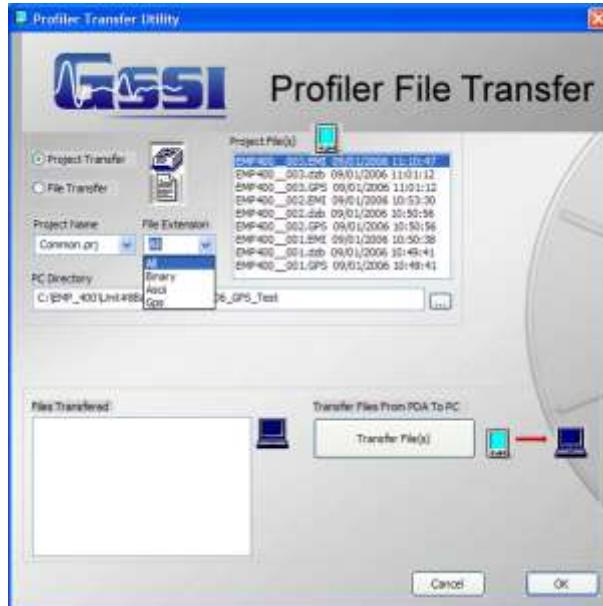

Figure 90: Profiler File Transfer Utility screen.
1. The File Transfer Utility can be copied directly from the Accessories CD provided with your EMP-400 to your PC desktop. Double-click the File Manager desktop icon. The File Manger screen will be displayed (Figure 90).